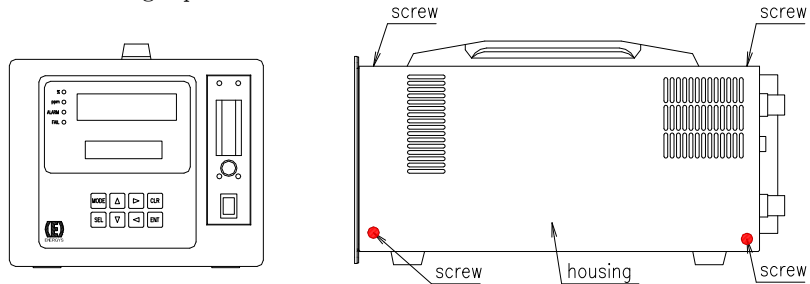
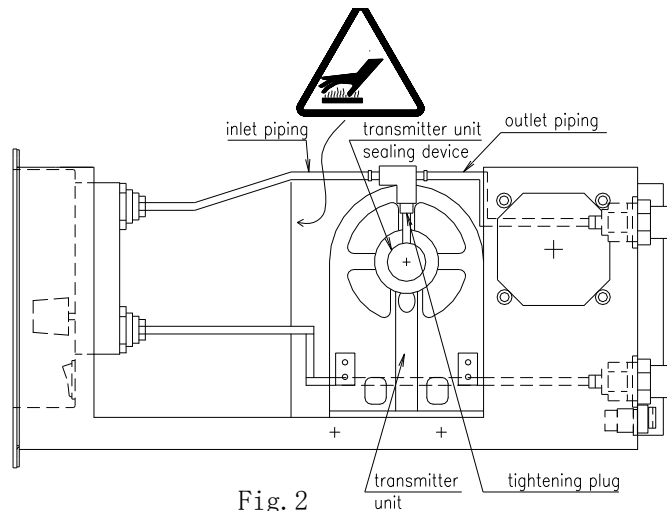

Fig. 1
Fig. 2
- (12) Connect the gas inlet and outlet piping. Refer to Fig. 2.
- (13) Perform leak check. (Refer to P21)
- (14) Screw the housing. Refer to Fig. 1.